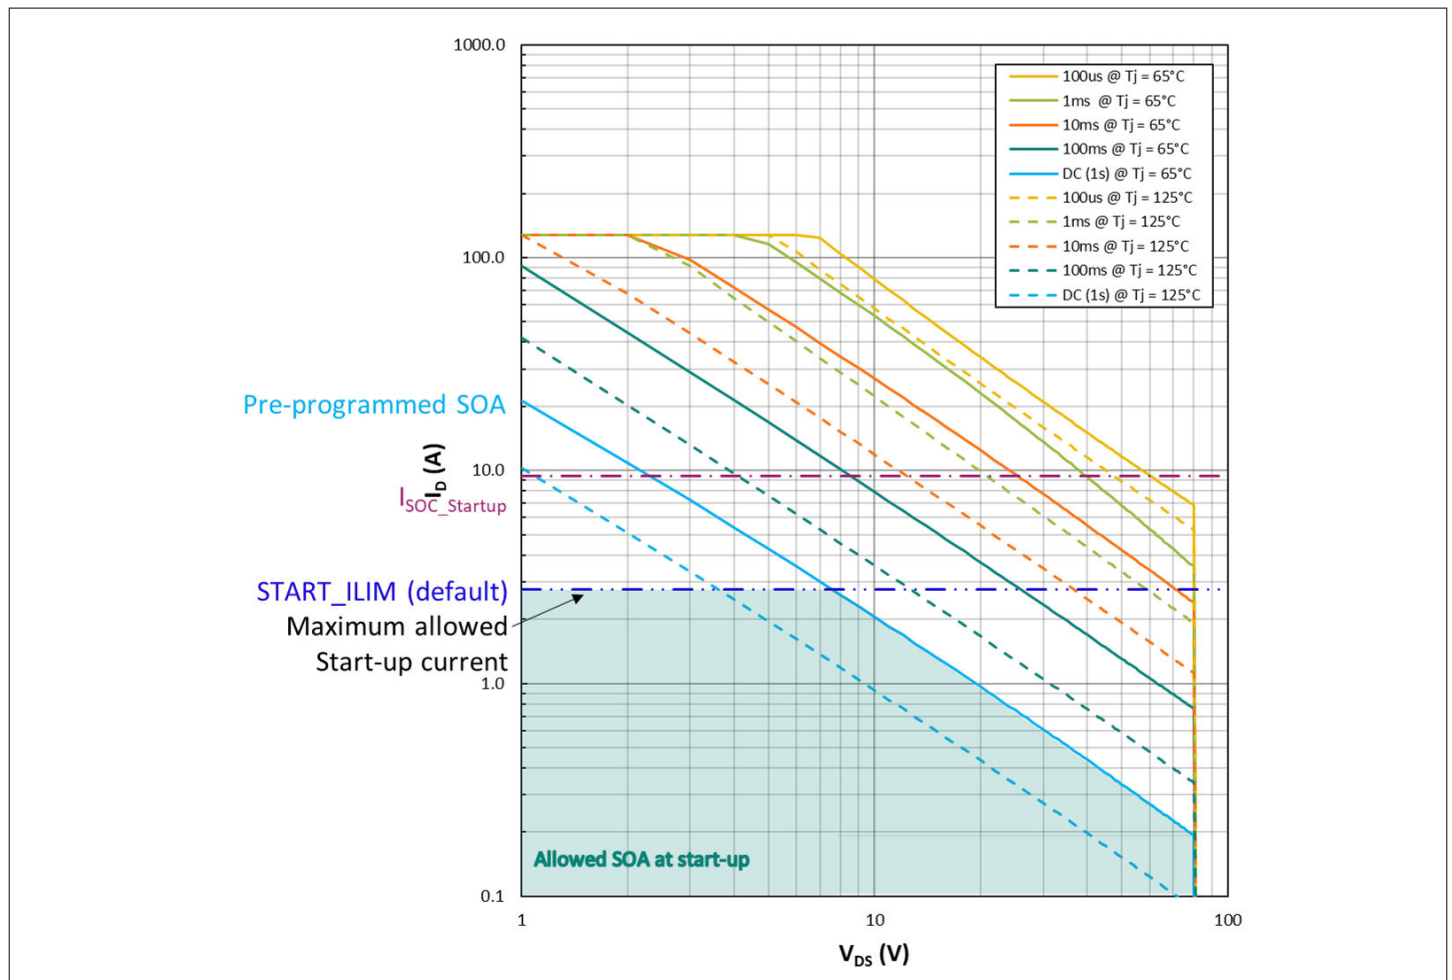

Figure 9 MOSFET's SOA chart
The control loop limits of a device are configured according to three different limits as shown in Figure 9.
The Figure 9 shows the MOSFET's SOA with the default control loop limits.
- The device starts charging the output capacitor by regulating the MOSFET. As shown in Figure 9, the control loop allows an $I_{SOA} = 0.25\text{ A}$ at 54 V .